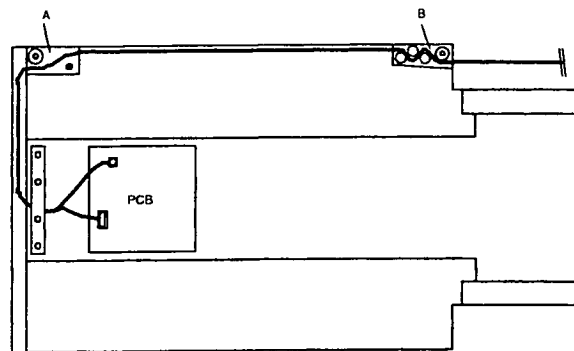

Figure 1 Cable routing
- remove the metal brackets A and B, and guide the cable through the cable-holders as indicated in Figure 1